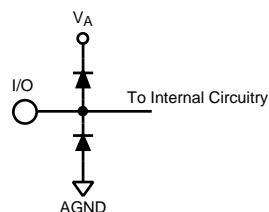

Figure 2.
(1) The inputs are protected as shown below. Input voltage magnitudes above V_A or below GND will not damage this device, provided current is limited per Note 4 of the Absolute Maximum Ratings Table. However, errors in the A/D conversion can occur if the input goes above 2.6V or below GND as described in the Operating Ratings section. See Figure 2.
(2) With a full scale differential input of $2V_{P-P}$, the 14-bit LSB is $122.1\text{ }\mu\text{V}$.
(3) Typical figures are at $T_A = 25^\circ\text{C}$ and represent most likely parametric norms at the time of product characterization. The typical specifications are not ensured.
(4) Parameters specified in dBFS indicate the value that would be attained with a full-scale input signal.
- (1) The inputs are protected as shown below. Input voltage magnitudes above V_A or below GND will not damage this device, provided current is limited per Note 4 of the Absolute Maximum Ratings Table. However, errors in the A/D conversion can occur if the input goes above 2.6V or below GND as described in the Operating Ratings section. See Figure 2.
- (2) With a full scale differential input of $2V_{P-P}$, the 14-bit LSB is 122.1 μV .
- (3) Typical figures are at $T_A = 25^\circ\text{C}$ and represent most likely parametric norms at the time of product characterization. The typical specifications are not ensured.
- (4) I_{DR} is the current consumed by the switching of the output drivers and is primarily determined by load capacitance on the output pins, the supply voltage, V_{DR} , and the rate at which the outputs are switching (which is signal dependent). $I_{DR} = V_{DR}(C_0 \times f_0 + C_1 \times f_1 + \dots C_{13} \times f_{13})$ where V_{DR} is the output driver power supply voltage, C_n is total capacitance on the output pin, and f_n is the average frequency at which that pin is toggling.
- (2) With a full scale differential input of $2V_{P-P}$, the 14-bit LSB is $122.1\text{ }\mu\text{V}$.
- (4) This parameter is ensured by design and/or characterization and is not tested in production.
- (4) Parameters specified in dBFS indicate the value that would be attained with a full-scale input signal.
- (5) I_{DR} is the current consumed by the switching of the output drivers and is primarily determined by load capacitance on the output pins, the supply voltage, V_{DR} , and the rate at which the outputs are switching (which is signal dependent). $I_{DR} = V_{DR}(C_0 \times f_0 + C_1 \times f_1 + \dots C_{13} \times f_{13})$ where V_{DR} is the output driver power supply voltage, C_n is total capacitance on the output pin, and f_n is the average frequency at which that pin is toggling.